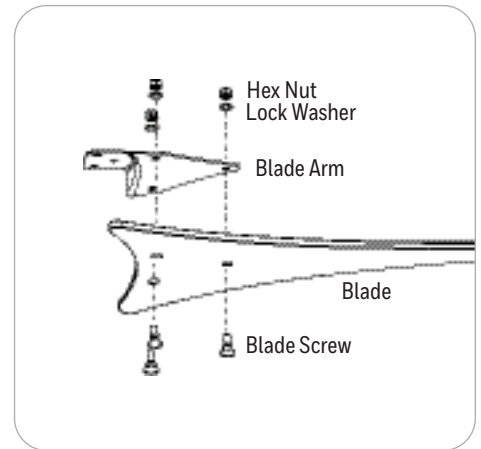

Figure 6.3
3. Partially insert the blade screws through the blade and blade arm and secure with a lock washer and hex nut. Repeat this step for the remaining blades (Figure 6.3).